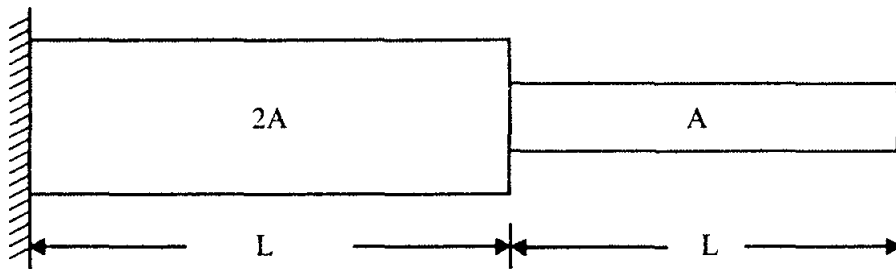

Figure 5
- (b) Find the natural frequencies of longitudinal vibrations of the same stepped shaft of areas A and $2A$ and of equal lengths (L), when it is constrained at one end, as shown in Figure 5. [BL: Apply| CO: 6|Marks: 7]